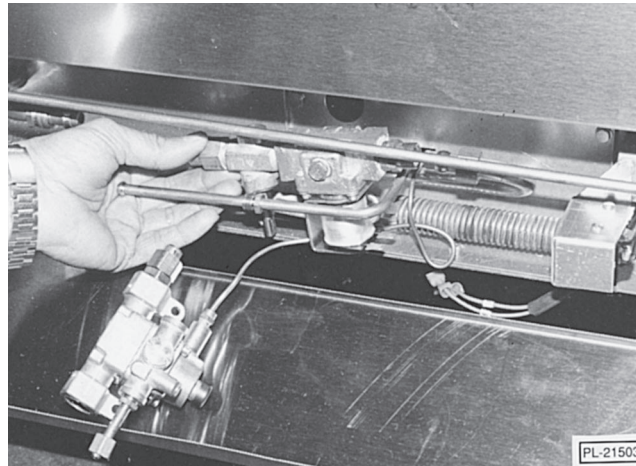

Fig. 73
7. Disengage solenoid and safety valve and remove old solenoid from the safety valve (Fig. 73).